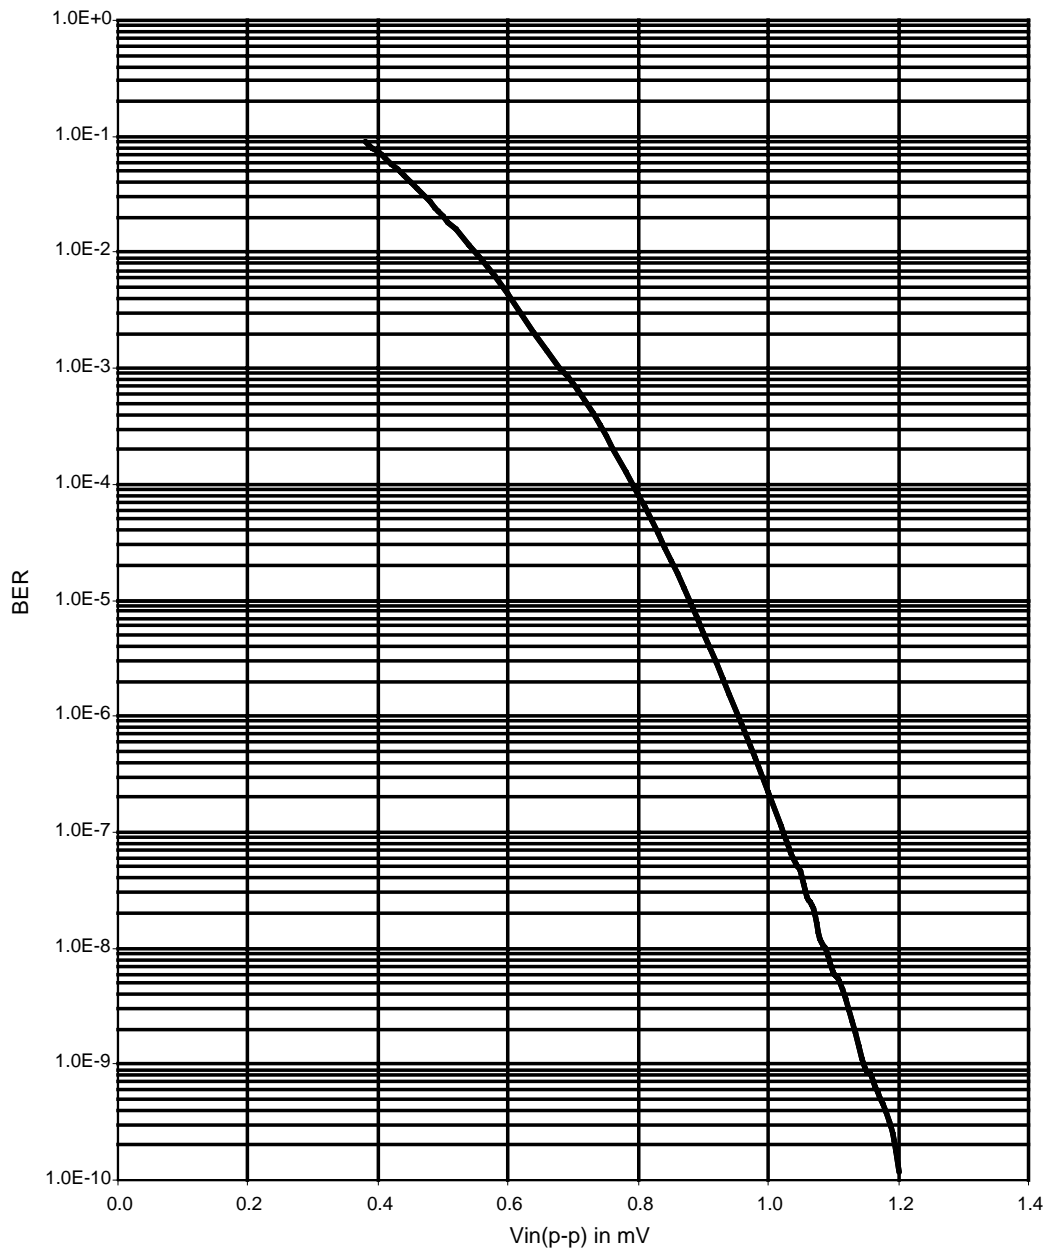

Fig.7 Bit Error Rate versus input signal on DI/DIQ in STM1 mode(155.52 Mbits/s).
8. Data to clock delay according to figure 7. Measured with 1010 data pattern, single ended output signals and rising edge of COUT to DOUT or CLOOP to DLOOP. Note that small deviations from specified value are possible if differentially measured.